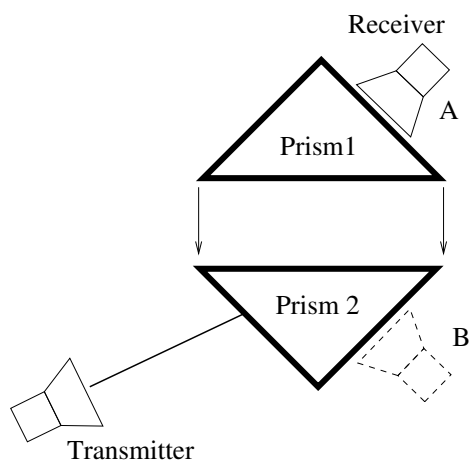

Figure 7: Frustrated total internal reflection.
- Dismantle the apparatus used above. Take the transmitter and receiver units off their metal stands. Arrange the transmitter, receiver and a prism on the table top such that total internal reflection is occurring. Place the transmitter about 20 cm away from the prism. Check that total internal reflection is occurring by bringing the receiver right up against the hypotenuse face of the prism. With the second prism, place the receiver hard up against one of the (equal length) faces. Move the receiver and the second prism as one slowly towards the first prism, as in Figure 7. Keep the hypotenuse faces of the
11. Arrange the prisms such that the meter reading with the meter in position A is roughly equal with that as in position B, see Figure 7.